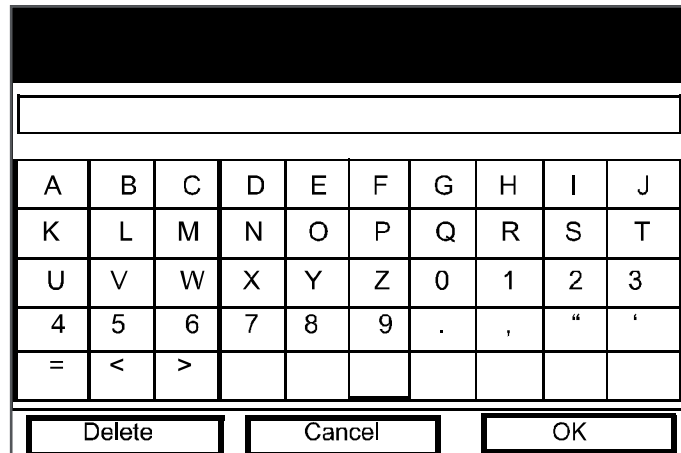

Figure 65: The Text Creation Window
- a. Press **[ENTER]** to open the text creation window, which appears similar to *Figure 65*.